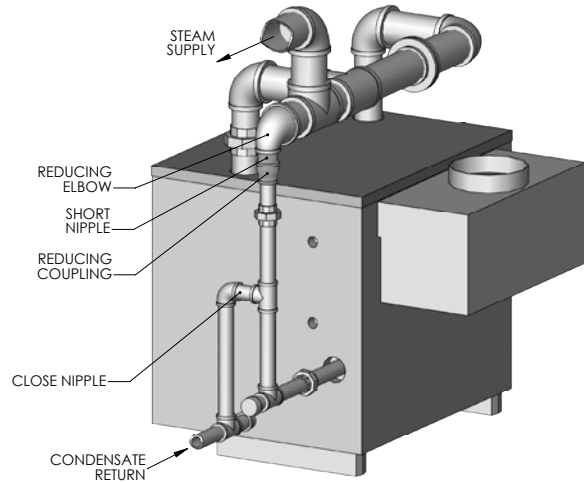

Figure 4.2: Steam Piping – Dual Supply Connections
2. Install steam supply pipes as shown in Figure 4.2 for Model 63-03 to 64-07 and Figure 4.3 for Model 64-08 to 64-12. See Table 4.1 for pipe size information.